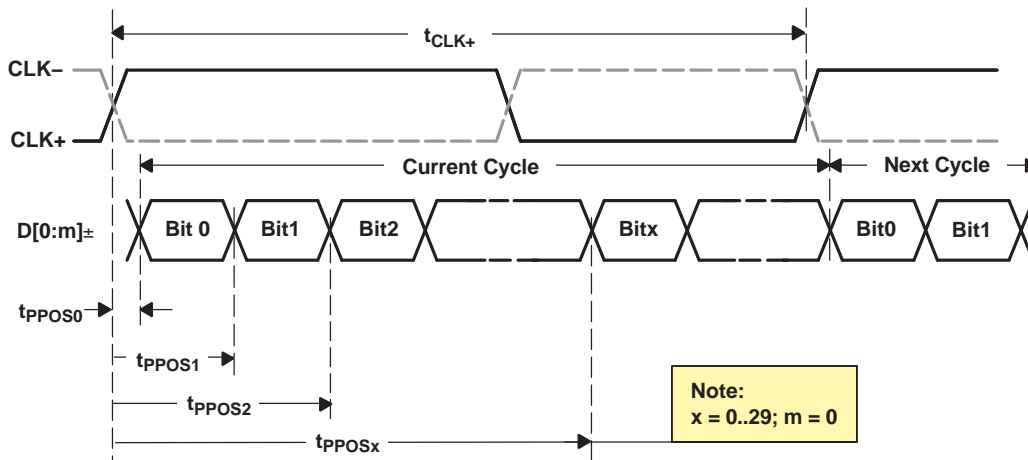

Figure 11. $t_{SK(0)}$ SubLVDS Output Pulse Position Measurement
| t _{PPOSX} Output pulse position, serial data to ↑CLK; see (1)(2)and Figure 11 | x = 0..29, f _{PCLK} = 15 MHz; TXEN at V _{DD} , V _{IH} = V _{DD} , V _{IL} = GND, R _L = 100 Ω, test pattern as in Table 6 ⁽³⁾ | $\frac{x}{30 \cdot f_{PCLK}} - 330 \text{ ps}$ | | $\frac{x}{30 \cdot f_{PCLK}} + 330 \text{ ps}$ | ps |